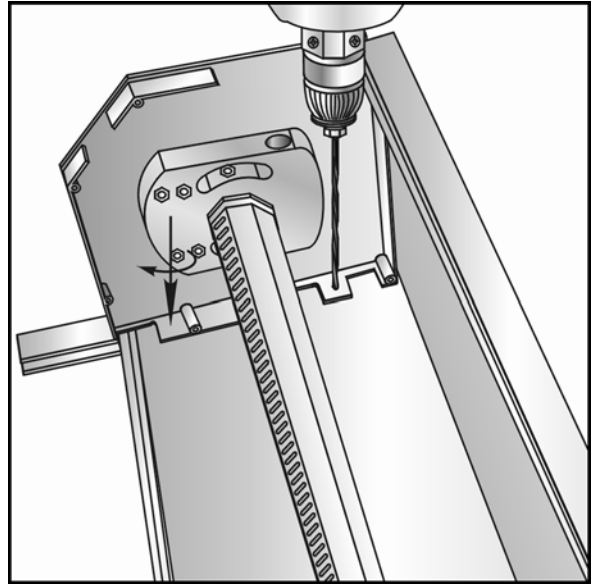
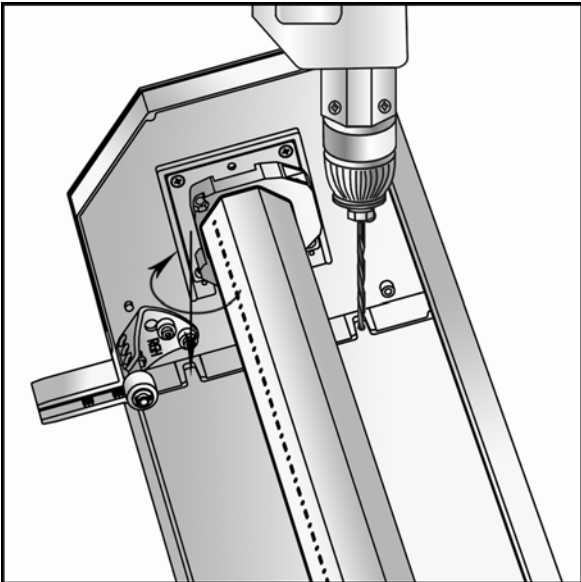

Fig. 2.8
Fig. 2.9
- for the front mounting—drill two holes in the back raised edge of each end cap (*fig. 2.8*). If there are mounting holes in the back panel, it's preferable to use them for fastening (*fig. 2.9*);